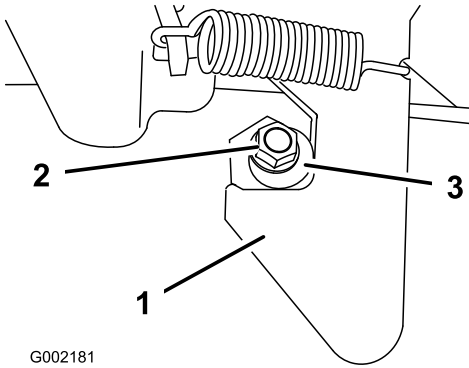

Figure 69
1. Loosen the locknut on the end of the latch post (Figure 69).
2. Rotate the latch post clockwise until it is snug against the hook portion of the latch (Figure 69).